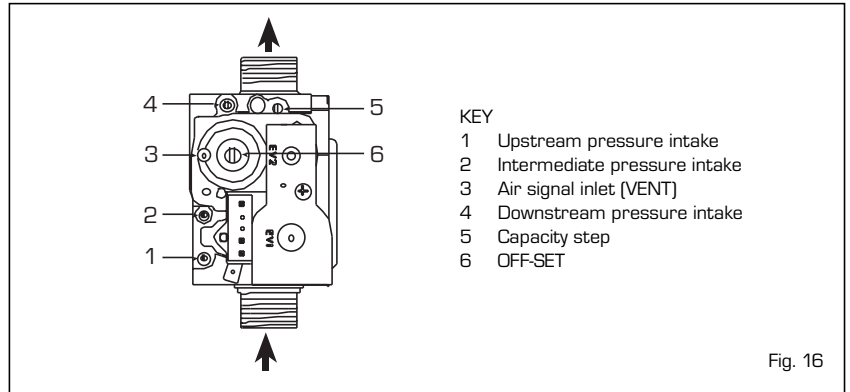

Fig. 16
4.2 GAS VALVE (fig. 16)
The boiler is supplied as standard with a gas valve, model SIT 848 SIGMA (Fig. 16).
3) Identify the CO₂ values at max. power by adjusting the shutter (5 in Fig. 16):
5) Identify the CO₂ values at min. power by adjusting the OFF-SET regulation screw (6 in Fig. 16):